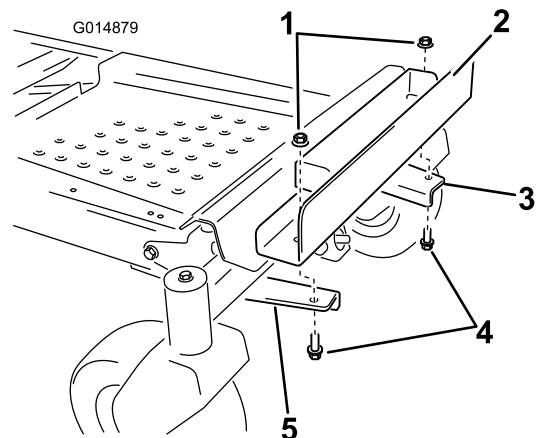

Figure 8
5. Install the weight holding bracket to the mounting brackets (Figure 8). Align the outboard holes in the bracket with the mounting brackets installed previously. Make sure the bracket is centered on the frame. Secure with two bolts (3/8 x 1 inch) and two lock nuts (3/8 inch).